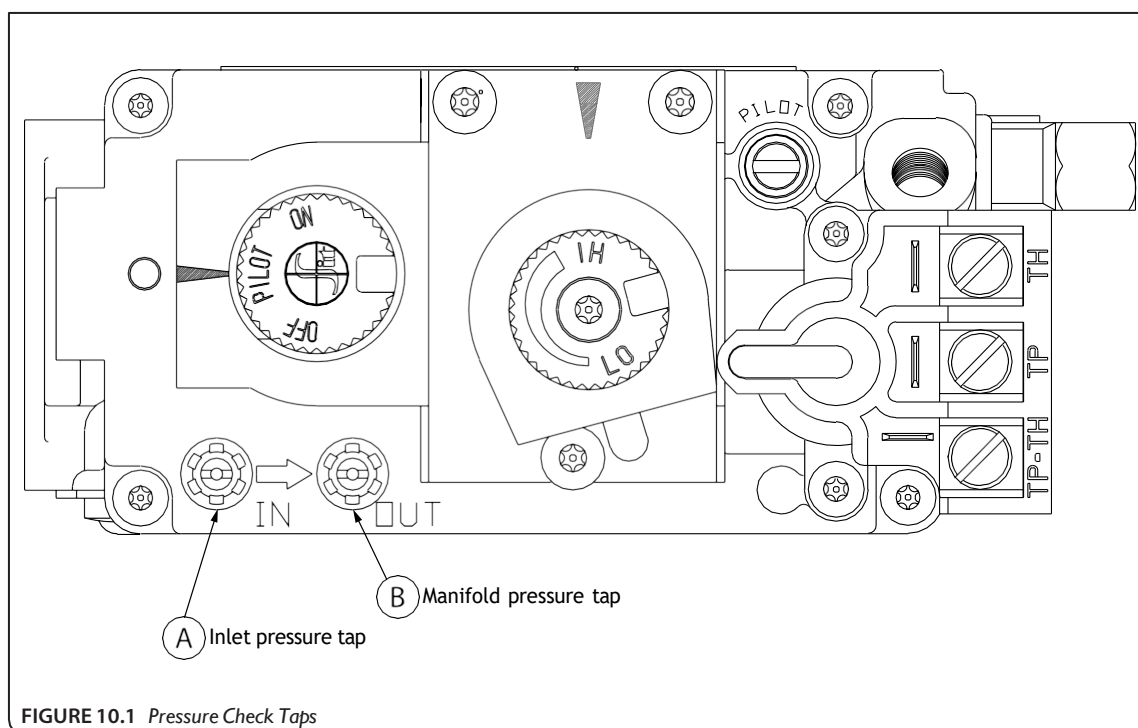

FIGURE 10.1 Pressure Check Taps
1. Loosen the inlet (IN) pressure tap by turning screw counterclockwise. See (A) in FIGURE 10.1.
8. Disconnect hose and tighten the inlet (IN) pressure tap by turning screw clockwise. Screw should be snug. Do not over tighten.
9. Relight pilot and turn the gas control knob to ON. Reattach manometer to the inlet pressure tap (A) to verify the tap is completely sealed. Manometer should read no pressure.
2. Loosen manifold (OUT) pressure tap by turning screw counterclockwise. See (B) in FIGURE 10.1.
7. Attach the manometer to the manifold pressure tap (B) to verify it is completely sealed. The manometer should read no pressure when the ON/OFF rocker switch is pressed to ON.